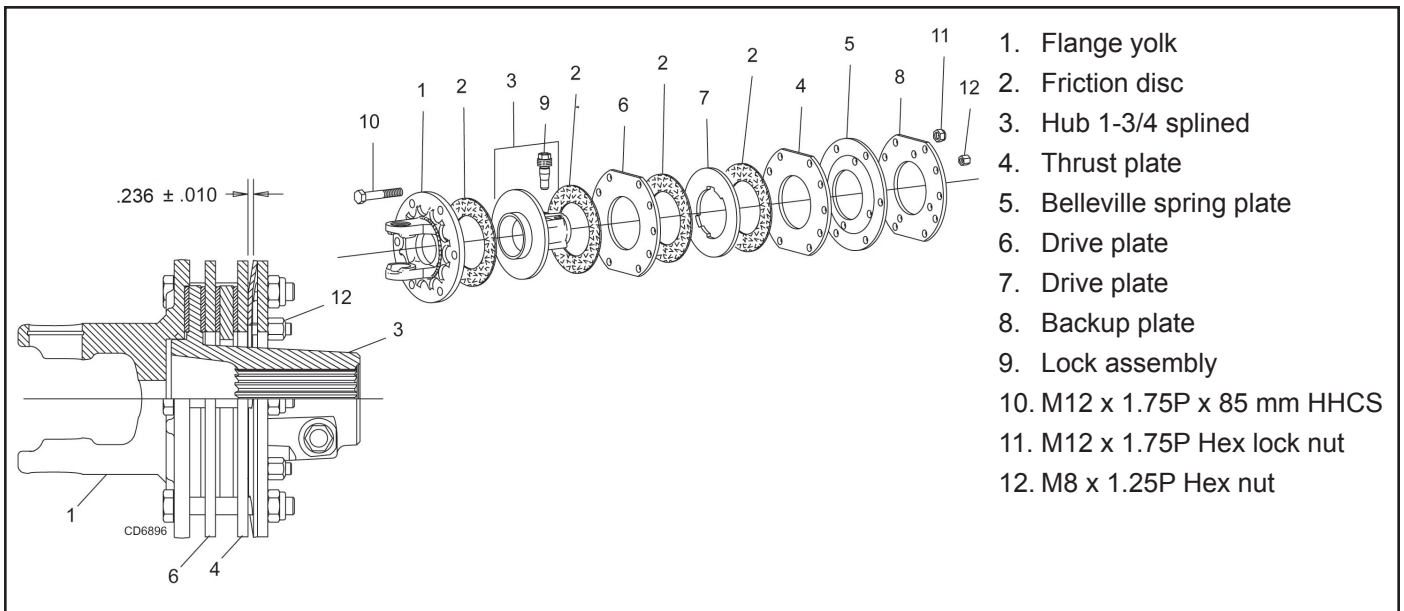

Figure 8. 4-Plate Slip Clutch Assembly
(Figure 8)
2. Tighten four nuts (12) to remove pressure from the clutch plates (2). Repeat for all three clutches.
4. If clutches slip freely, completely loosen nuts (12).
5. If clutch does not slip freely, disassemble and clean plates (4, 6, & 7), flange yoke (1), and clutch hub (3).
7. Tighten Belleville spring (5) with nuts (11) until it is against the thrust plate (4) of the clutch. Back off each of the four nuts (11) until gap between Belleville spring and thrust plate is .236" as shown in Figure 8.